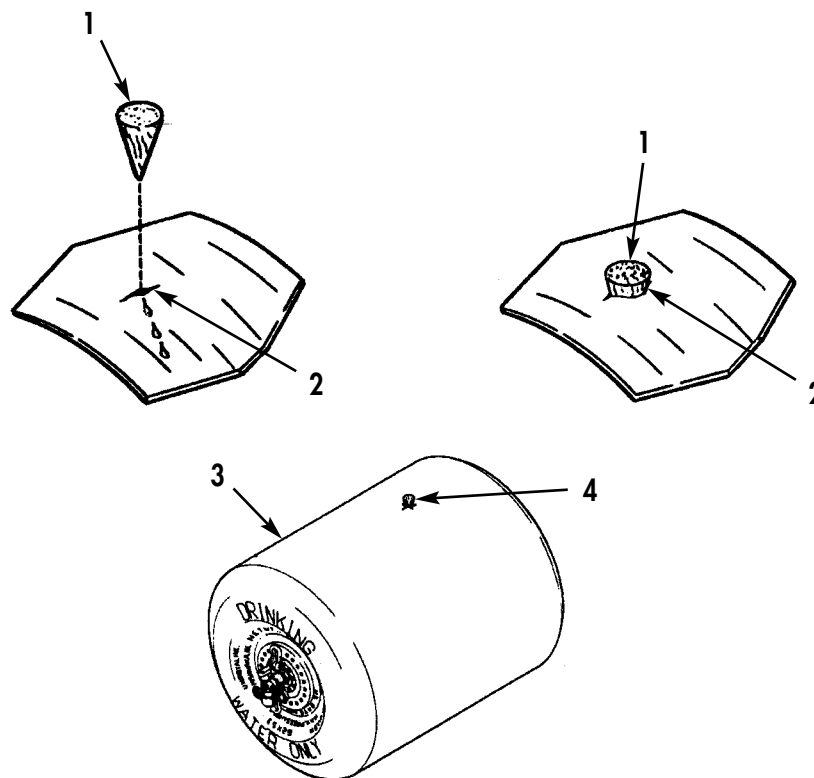

Figure 19. Wood Plug Installation.
1. Push tapered (pointed) end of wood plug (Figure 19, Item 1) into hole (Figure 19, Item 2) until snug.
2. Roll drum (Figure 19, Item 3) over so plugged hole (Figure 19, Item 4) is facing up.